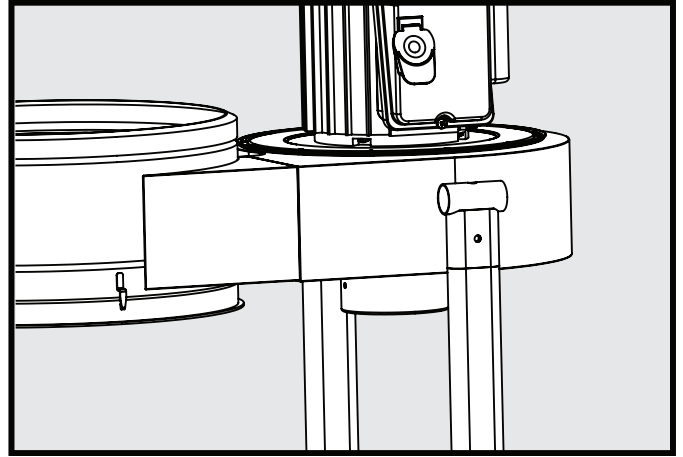

FIGURE 6
3. Rear blower housing supports fit inside the brackets on the blower housing, as shown. (Fig 6)